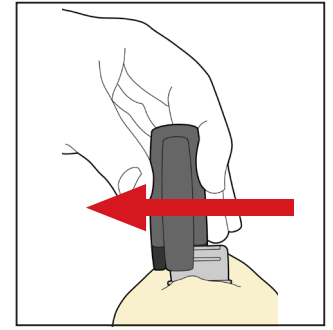

Fig. 13
7. Once the mask is completely set, remove the IntegraBite Applicator from the bite plate by sliding it to the right or left (Fig. 13).